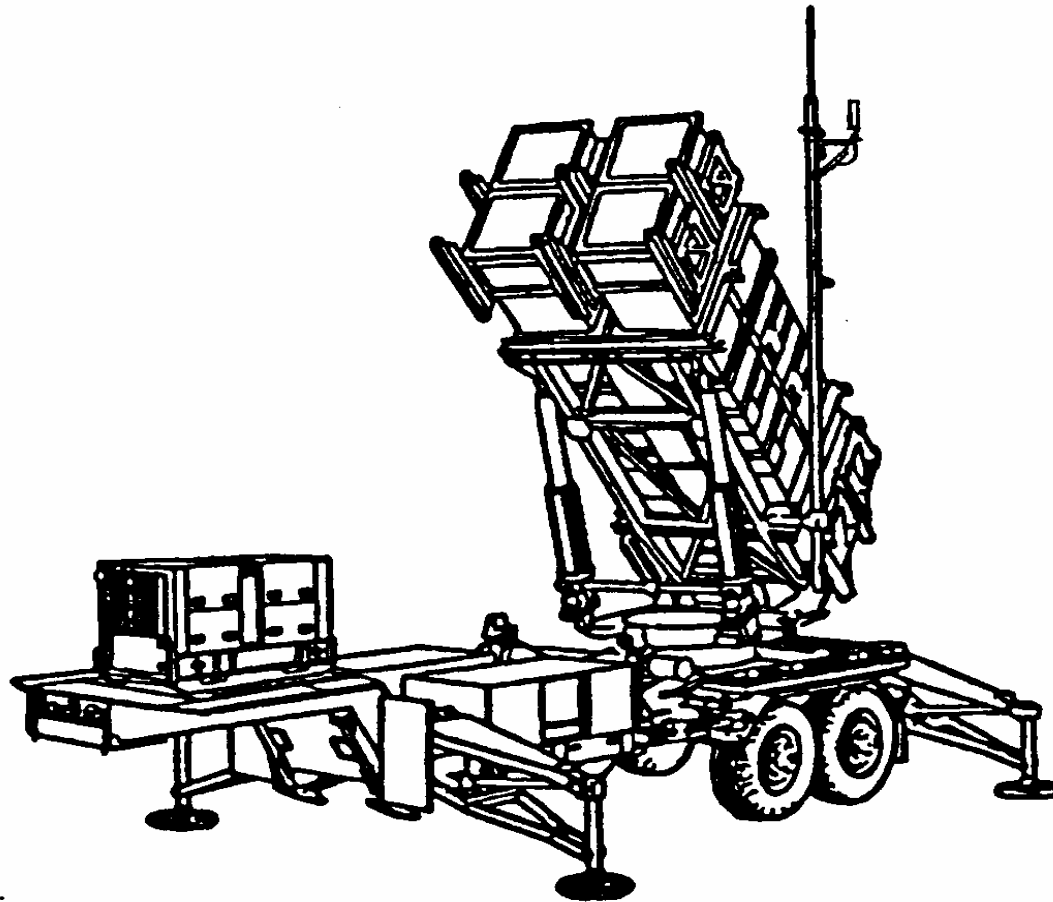

Figure 2-15. PAC-3 LS Emplacement.
ILLUSTRATIONS: Figure 2-15.
(1) Using a diagram, Figure 2-15, a sand table, or a simple sketch in the dirt, show the crew members how the LS should be emplaced.
(2) Tell the crew members what their duties are in the drill.
(3) Read the performance measures of the drill to the crew members.
(4) Have crew members explain their performance measures to ensure that they understand them.